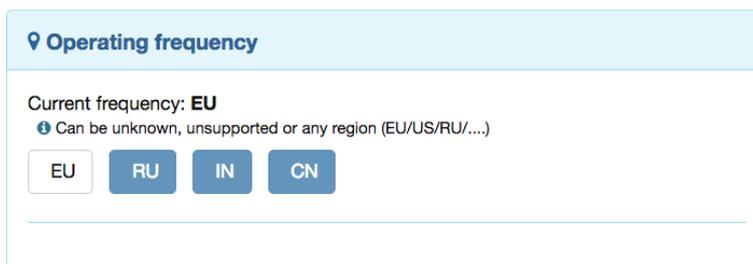

Figure 2.3: Frequency Change Option in Z-WAVE EXPERT USER INTERFACE
1. If you use **Z-WAVE EXPERT USER INTERFACE**, just choose the frontend on **Network >> Management** as shown in the figure 2.3. For more information about this **Z-WAVE EXPERT USER INTERFACE**, please refer to chapter 7.
1. If you use **Z-WAVE EXPERT USER INTERFACE** , just choose the frontend on **Network >> Management** as shown in the figure. 2.3. For more information about this **Z-WAVE EXPERT USER INTERFACE** , please refer to Chapter 7.